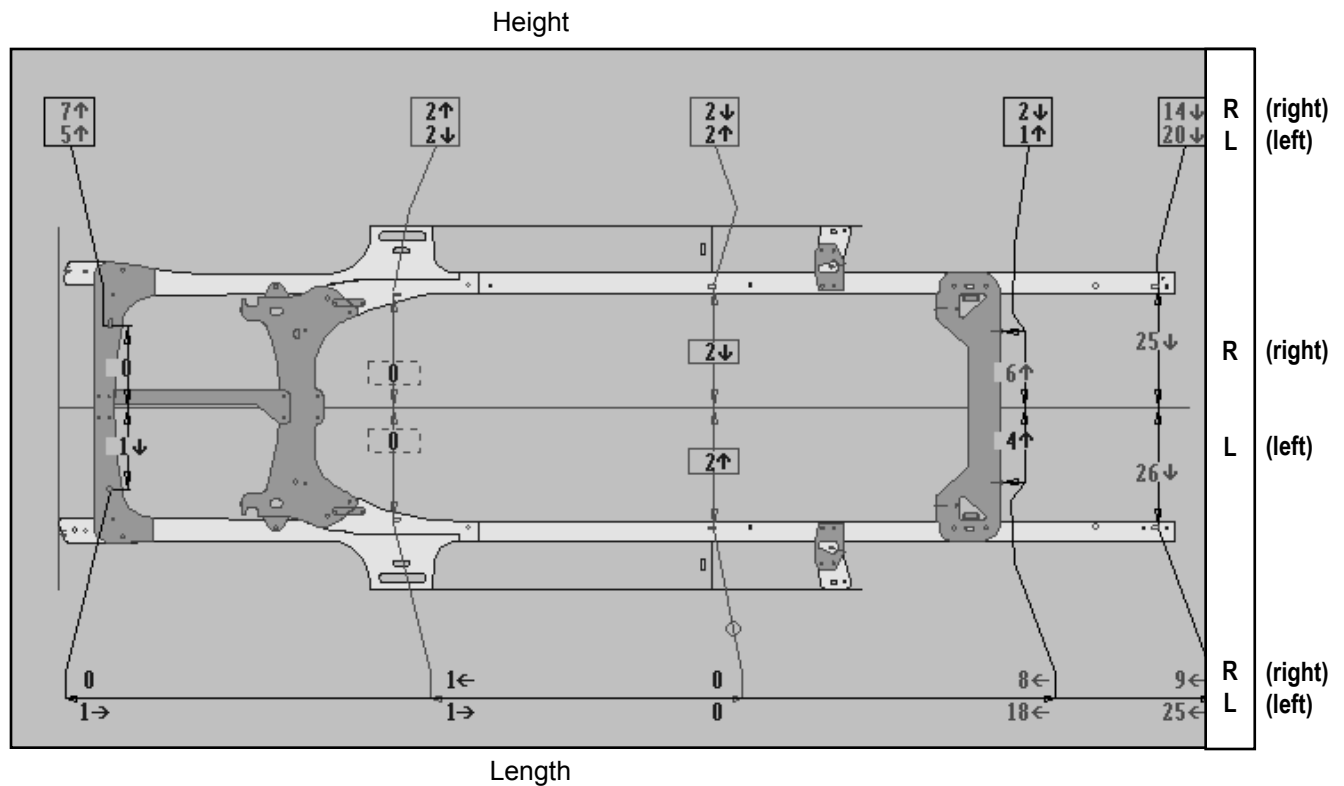

Figure 45
**Arrow** mode shows direction and amount of misalignment for each reference point measured. (See Figure 45.) Arrows indicate direction of misalignment and numerical references indicate amount of misalignment . . . difference between actual measurement and vehicle specification. Whenever amount of misalignment exceeds allowable tolerance, arrow and numerical reference are shown in 'red'. When it is within allowable tolerance, they appear in 'blue'.